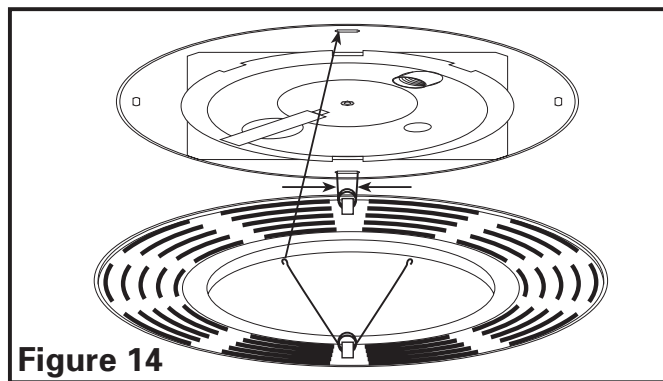

Figure 14
5. Install the grill by squeezing the two ends of the springs together and installing them up into the slots on the fan's housing. Push the grill up into position (**Figure 14**).